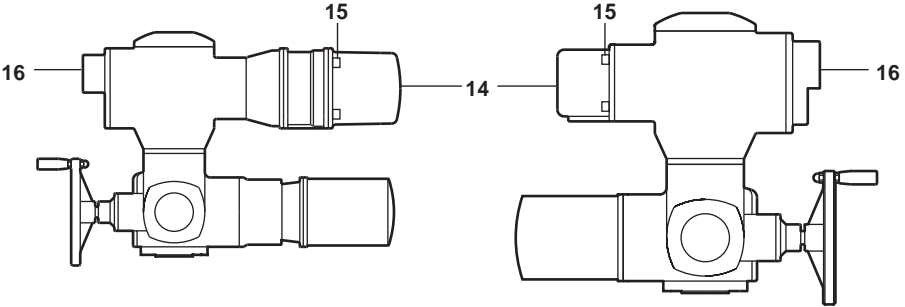

Fig. 6 AM10.1 actuator
To access the screw terminals unscrew the four cheese head screws (15) holding the multi-pin socket into the plug (Fig. 6). For multi-pin terminal connections see appropriate terminal diagram, supplied with the actuator.
- Set selector switch to **LOCAL** position, on the control panel (**16** see Fig. 6).